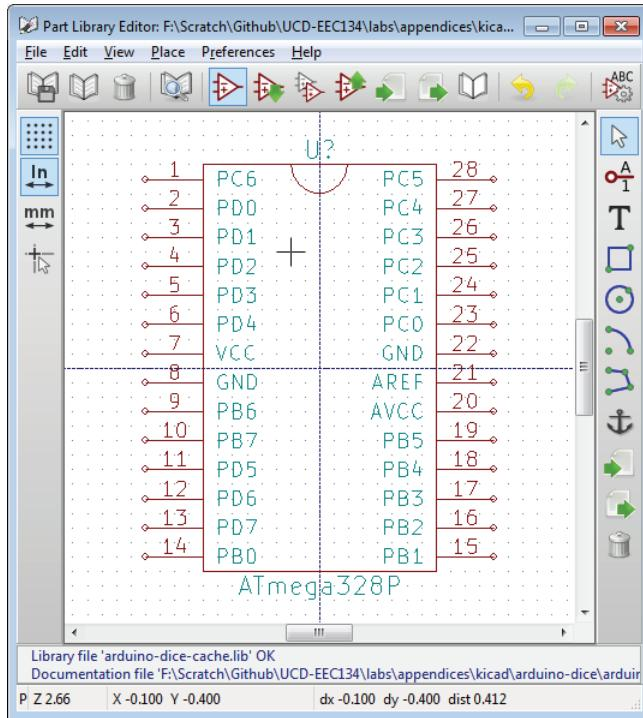

Figure 12: Completed schematic symbol for the ATmega328P microcontroller.
9. Now move the “Reference” string above the rectangle (only for aesthetic reasons) and the “Value” string below the rectangle. You can also add a half circle (arc) to the top of the rectangle to indicate the orientation of the component. Fig. 12 shows the completed component symbol.